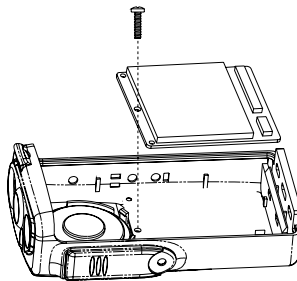

Fig.5
7. Remove the small PCB: Loosen the screw to remove the small PCB. And then loosen the socket of flexible PCB. (See fig.5)